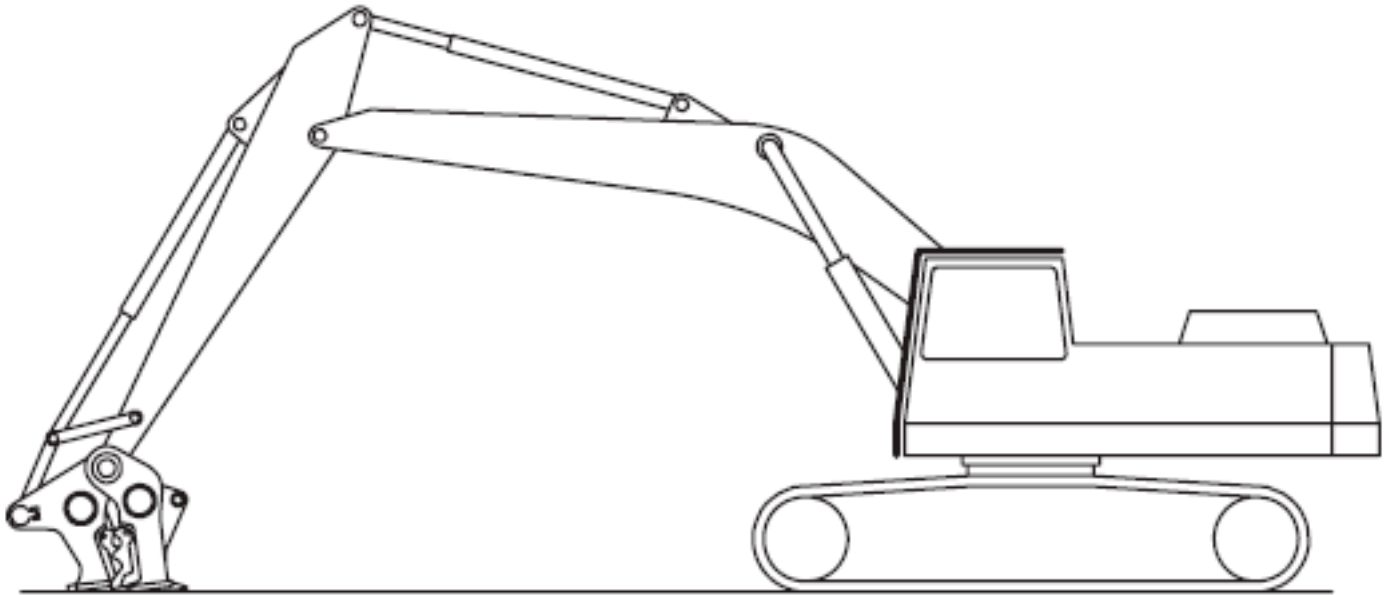

FIGURE 3-7
1. Fully close the pulverizer and place it on a solid, level surface in the position shown in figure 3-7.